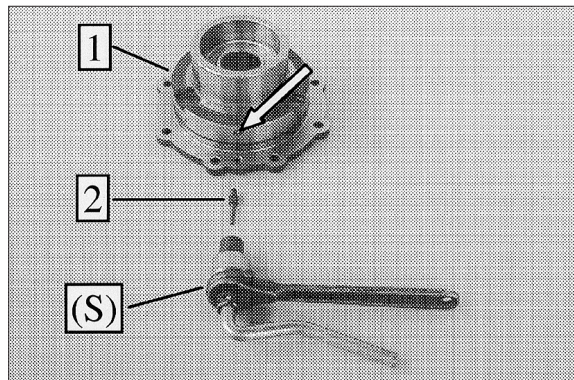

Figure 246
- ※ For installation of a new bearing cover, both finished bores have to be sealed by means of a plug. Finished bores are located opposite (180°) to each other, also see arrow/figure 246 and 247.
- (S) Special tool